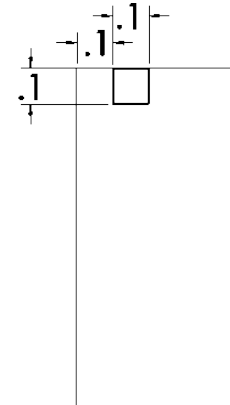

Fig. 8
Step 5. Click **Smart Dimension**  (S) on the Sketch toolbar.
Step 6. Add the dimensions as shown in **Fig. 8**.